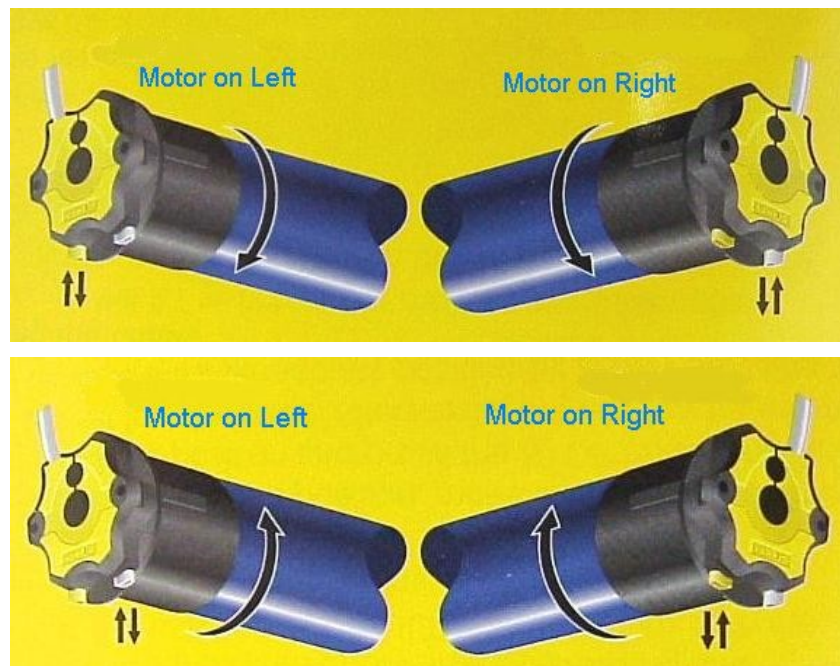

Figure 3—LT50 Series Motor Direction and Limit Switches
- 4 Use the motor tester to raise the shade to its correct upper position. The ideal upper limit is usually set so that the bottom rail of the shade is just off the roll. Note the limit switch that controls the direction of motion that raises the shade. The limit switches are flat on one side and rounded/pointed on the other, appearing to point in the direction of motion that they control (see Figure 3).